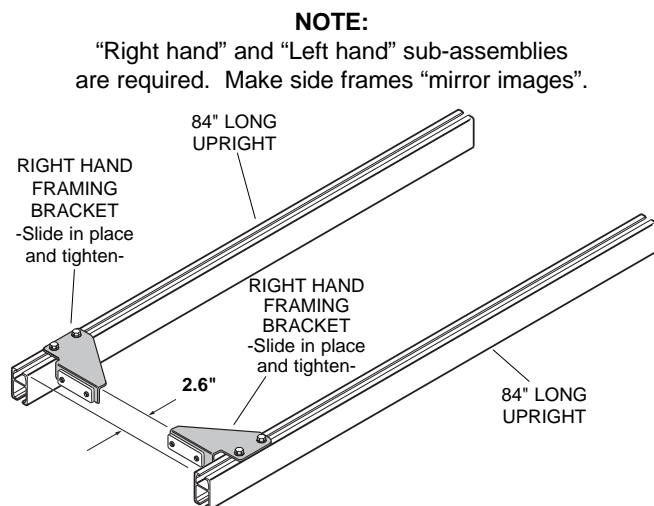

Figure 3.
3. Locate two 84" long uprights, right hand framing bracket and left hand framing bracket. Affix framing brackets to uprights 2.6" from end of aluminum rail (Fig. 3). Wrench tighten to secure.